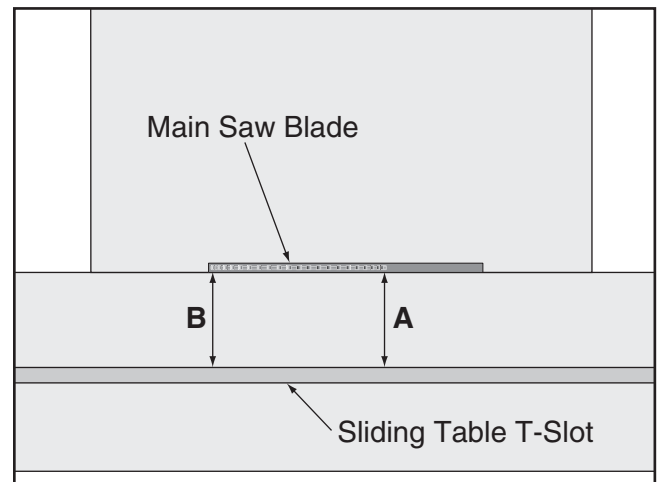

Figure 123. Measuring the distance between sliding table T-slot and main blade.
5. Use the adjustable square to measure the distance from the sliding table T-slot and the main saw blade at the mark you made in **Step 4**. This is distance "A" shown in **Figure 123**.